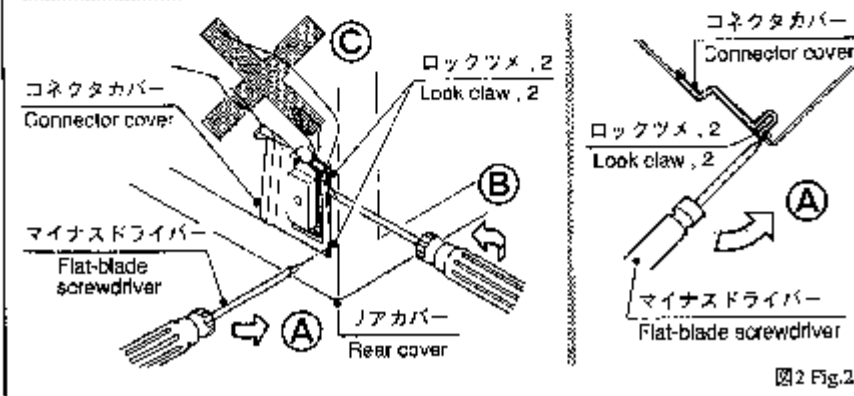

図2 Fig.2
○ コネクタカバーのロックツメ2ヶ所を、マイナスドライバーを用いて図のように外す。(図2㉔)
○ コネクタカバーとリアカバーの隙間にマイナスドライバーを差し込み、コネクタカバーを抜き出す。(図2㉕)
- 注意** コネクタカバーとリアカバーの隙間に、指を入れないこと。(図2㉔)
- (1) Remove the probe holder in the following procedures.
○ Release 2 lock claws of the connector cover with a flat blade screwdriver as shown in the figure. (㉔ in Fig.2)
○ Insert the flat-blade screwdriver into the gap between the connector cover and the rear cover, and extract the connector cover. (㉕ in Fig.2)
- CAUTION** Do not put the finger into the gap between the connector cover and the rear cover. (㉔ in Fig.2)